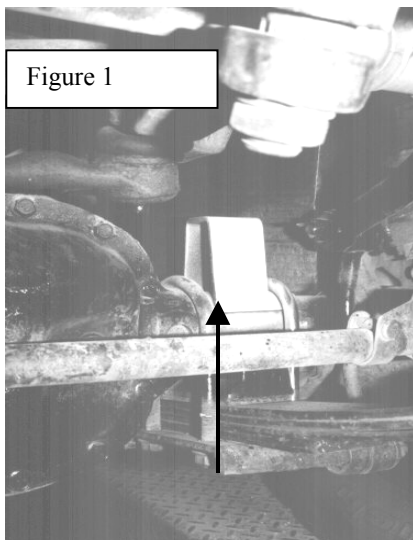

Figure 1
9. While installing new u-bolts, put one bump stop extension snubber on top of axle tubes. (figure 1 shows how the bump-stops are capture by the u-bolt. Tighten u-bolts to 65 ft. lbs. of torque. Tighten spring pivot bolts to 35ft. lbs. on both frame mounts and shackle mounts.